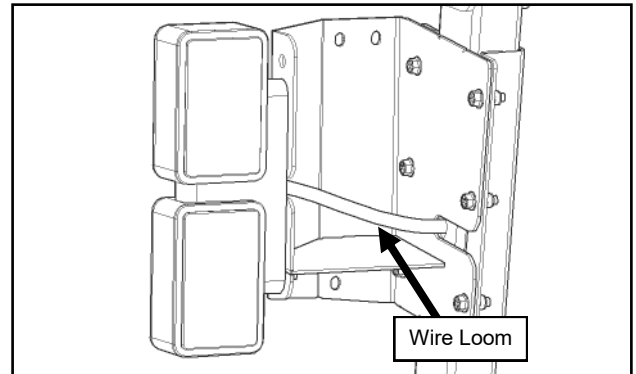

Fig. 2.5 (Wire Loom)
2.5 Cut the smaller supplied wire loom in half, then wrap the exposed rear light wires with the wire loom. See Figure 2.5.